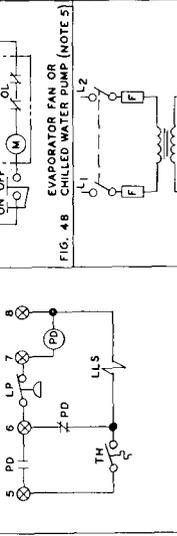

FIG. 3A SINGLE PUMP DOWN (NOTE 4)
4. IN FIG. 3A, "AC" IS A SEPARATE AUXILIARY CONTACT THAT MUST BE ADDED TO COMPRESSOR MOTOR STARTER M1 OR M1A.